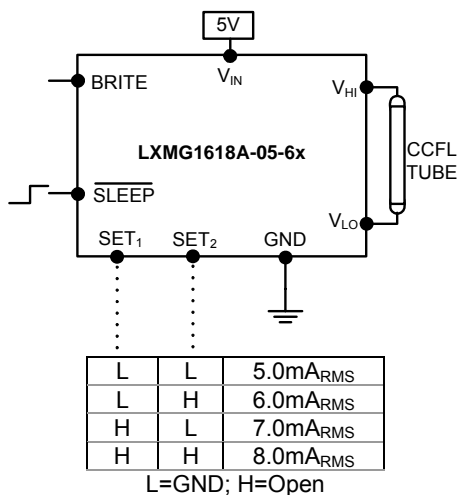

Figure 2 – Max Output Current (SET₁ and SET₂ Inputs)
- Use the SET₁ and SET₂ (see Figure 2) inputs to select the desired maximum output current. Using these two pins in combination allows the inverter to match a wide variety of panels from different manufacturers. Generally the best lamp lifetime correlates with driving the CCFL at the manufacturer's nominal current setting. However the SET₁ and SET₂ inputs allow the user the flexibility to adjust the current to the maximum allowable output current to increase panel brightness at the expense of some reduced lamp life.